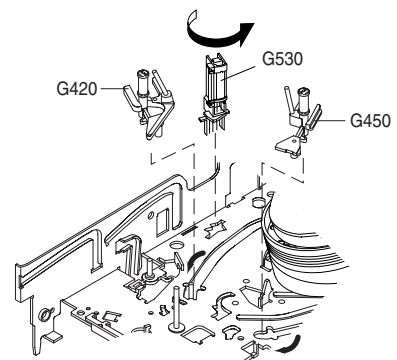

Fig. 19
- Slide the right threading roller unit (G450, Fig. 19) in threading direction then remove it.
- Slide the left threading roller unit (G420, Fig. 19) in unthreading direction then remove it.
- Turn the full erase head (G530, Fig. 19) counterclockwise then remove it.